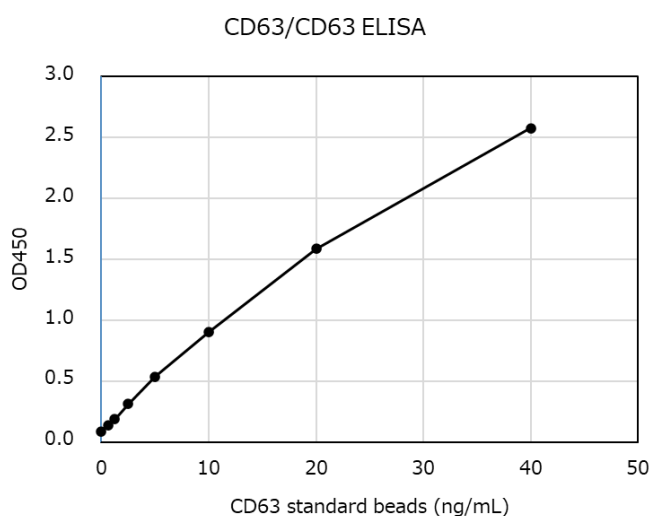

Fig.1 Example of Standard curve for CD63 Standard Beads.
14. Create a standard curve for the CD63 protein by plotting the mean absorbance (y axis) against the CD63 Standard concentration (x axis) (Fig. 1).